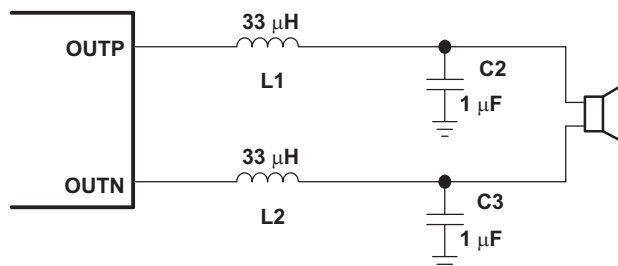
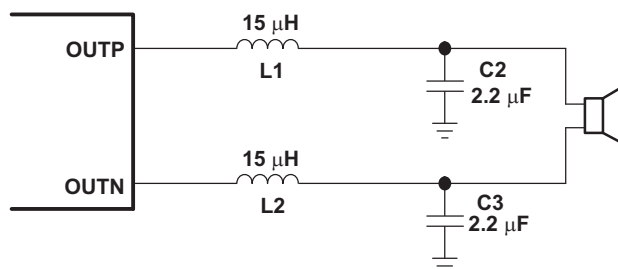

Figure 37. Typical LC Output Filter, Cutoff Frequency of 27 kHz, Speaker Impedance = 8 Ω
Figure 38. Typical LC Output Filter, Cutoff Frequency of 27 kHz, Speaker Impedance = 4 Ω
- Output filter—The ferrite EMI filter (Figure 39) should be placed as close to the output terminals as possible for the best EMI performance. The LC filter (Figure 37 and Figure 38) should be placed close to the outputs. The capacitors used in both the ferrite and LC filters should be grounded to power ground.